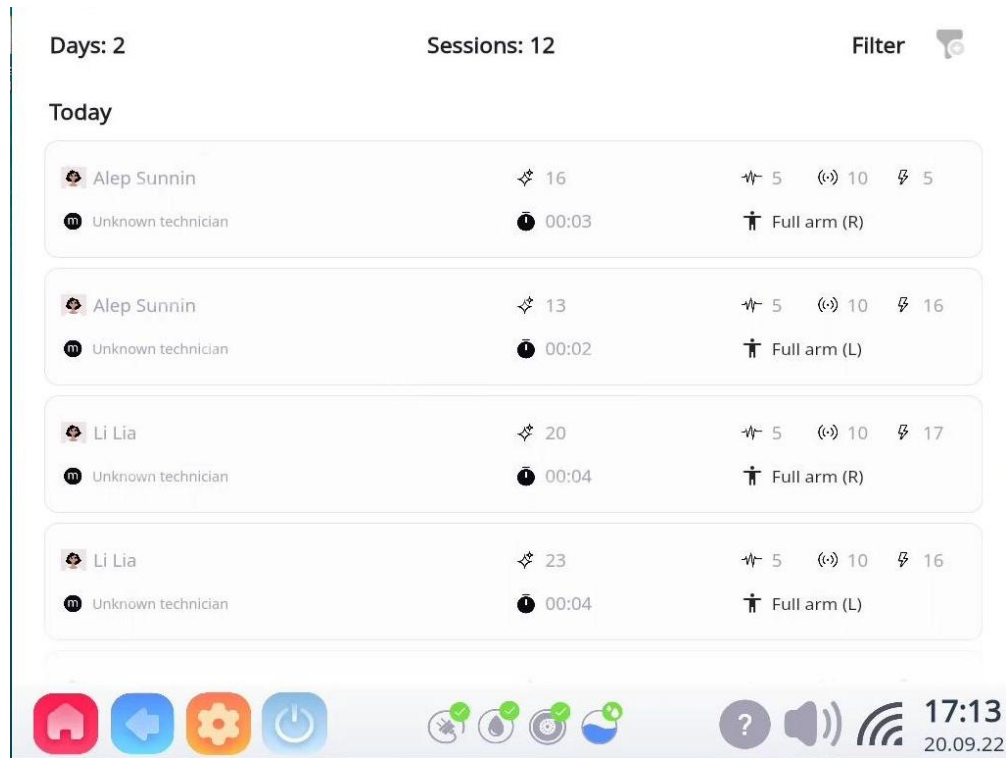
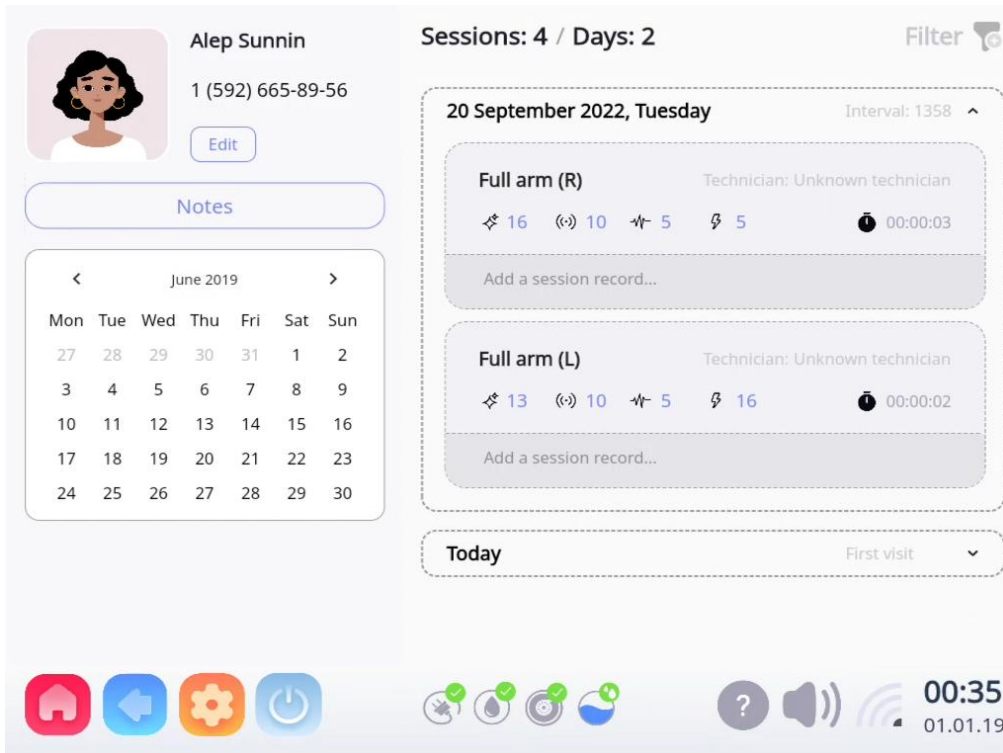

Figure 5.4-17
Figure 5.4-18
- Click “Session history” to view and manage the treatment history data (see Figure 5.4-17), the interface will display the information of all customers who have used the machine on the same day, including: customer name, contact information, treatment area, pulse, frequency, power data during treatment, total number of shots, time; Click any customer to view its detailed session history.(see Figure 5.4-18)